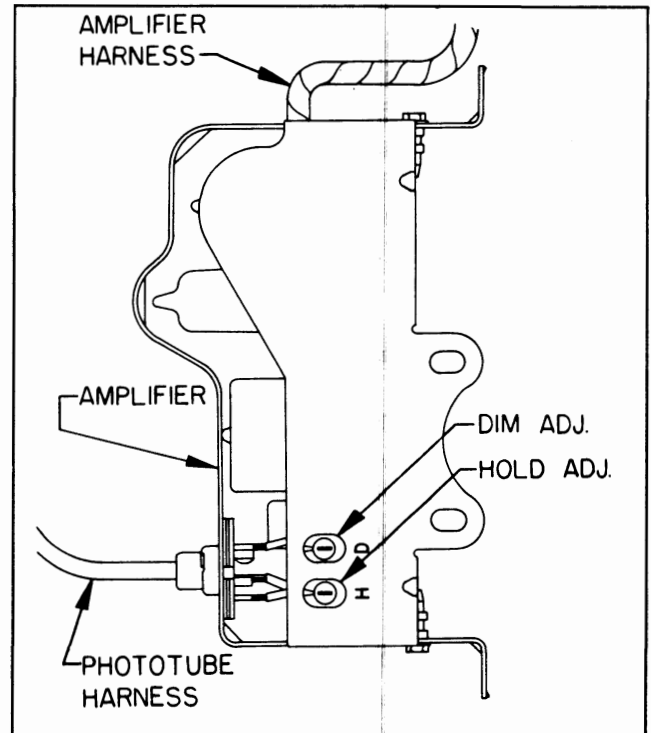

Fig. 12-30 Dim and Hold Adjustment Screw Location
1. Hold and dim sensitivity controls are slotted for screwdriver adjustment and are located at the side of the amplifier unit (Fig. 12-30).
1. Rotate amplifier dim control completely counterclockwise (Fig. 12-30).